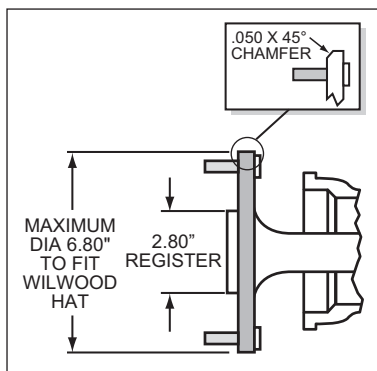

Figure 2. Axle Flange Maximum Dimension
- Axle center register diameter is 2.80", Figure 2. This kit uses Wilwood's removable center register adapters. Rotors can either be centered on the axle register, i.e. *register-centric* or centered on the wheel studs, i.e. *stud-centric*. Due to variations in wheel stud final diameters, *register-centric* centering can be a more accurate method of centering the rotor to the axle. Wilwood offers various diameter adapters for purchase in addition to the ones supplied in this kit, see Table 1.
•Maximum axle flange diameter must be no larger than 6.80" w/.050" x 45° chamfer, Figure 2.